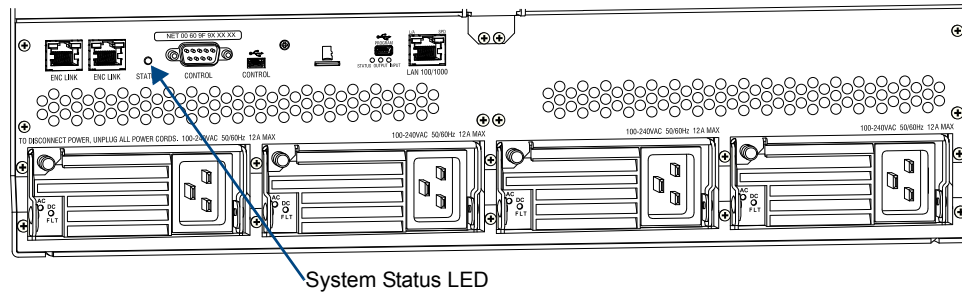

FIG. 146 Check System Status LED indicator
12. Check the Status LED on the CPU for indications of normal display (see table below FIG. 146).